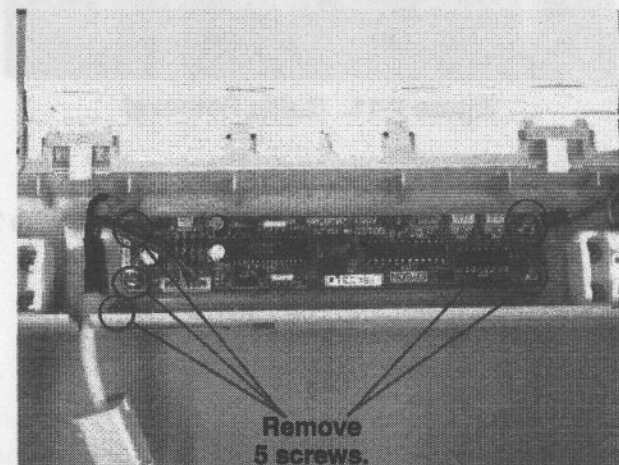

**Figure 7-8. 2 screws on the back of ADF**
2. Flip over the ADF so that you can see the bottom of the ADF. Remove 2 screws (silver, P-tite, M3x6) securing the cover of the bottom of the main board. (See Figure 7-8.)